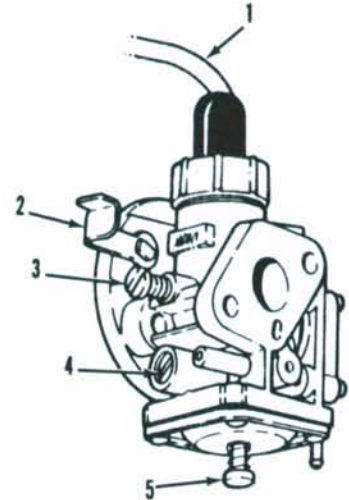
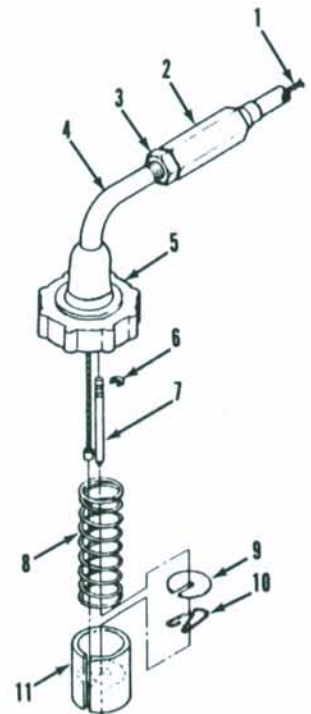

Fig. MI55—View of slide-valve-type diaphragm carburetor used on some models.
Fig. MI56—Exploded view of throttle slide assembly.
Throttle Slide-Type Carburetor. Some models are equipped with the diaphragm carburetor shown in Fig. MI55. A throttle slide (11—Fig. MI56) is used in place of a throttle plate.
Initial adjustment of high-speed mixture screw (4—Fig. MI55) is 2 1/2 turns out from a lightly seated position. Final adjustment is performed with trimmer line fully extended or blade assembly in-
Normal position of jet needle clip (6—Fig. MI56) is in the center groove on jet needle (7). When installing metering diaphragm lever, adjust metering lever height to obtain 0.5 mm (0.020 in.) be-